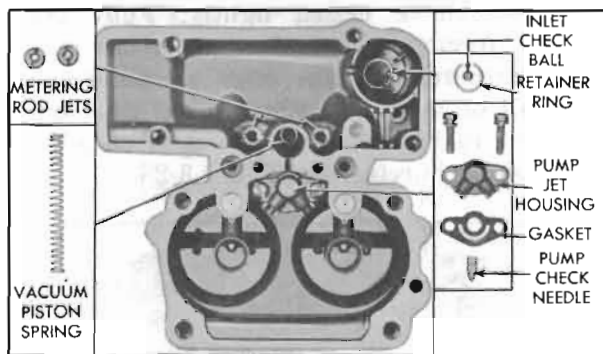

Figure 3-34—Main Body Parts
9. Remove air horn gasket from main body. Remove pump plunger assembly and lower pump spring. Remove vacuum piston spring. See figure 3-34.
a short hook on the end. Remove both metering rod jets. Remove pump jet screw, jet housing, and gasket. Invert carburetor and catch pump inlet check ball and outlet check needle. See figure 3-34.